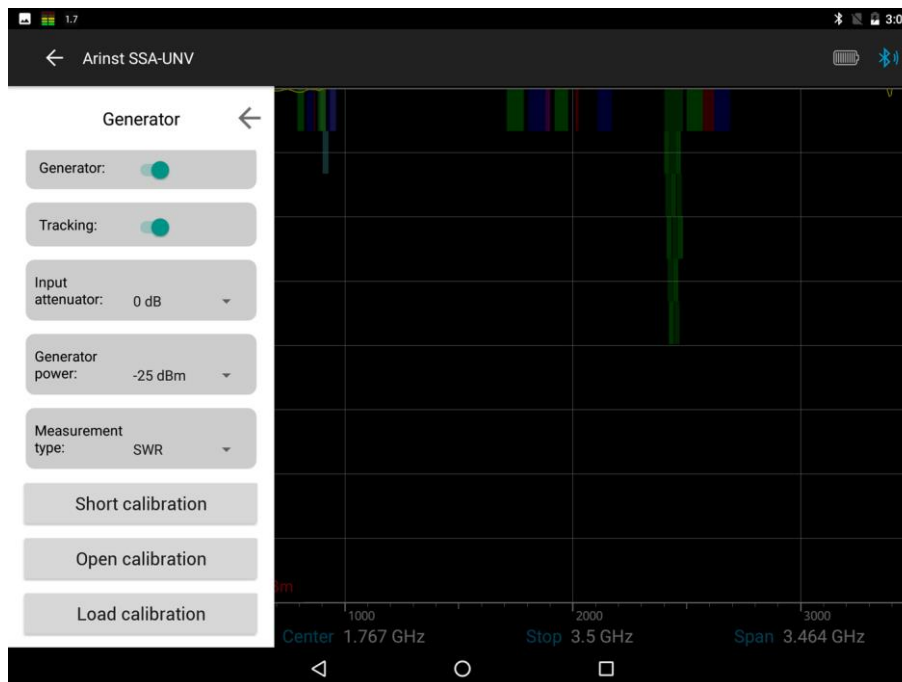

Figure 75 – Selecting the standing wave ratio measurement mode
9.4.3. Select the **SWR** mode in the **Measurement type** menu, as shown in figure 75.